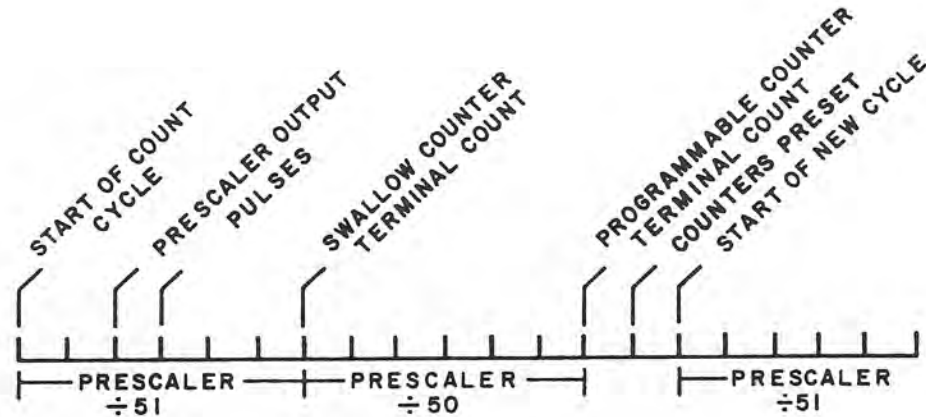

Figure 3-21. 1st Lo Synthesizer Counting Cycle
b. 1st Lo Counting Cycle. Figure 3-21 shows graphically a typical 1st lo counting cycle. The prescaler divides by 51 until the swallow counter reaches terminal count. When the outputs of the swallow counter reach this state, they cause the zero detector's E output state to become high. This causes the prescaler to divide by 50 until the end of the count cycle. Since the programmable counter is separately clocked, it continues to count down until its terminal count is detected by the early decode circuit. When this occurs, the $\overline{F}_0$ output of the early decode goes high after the next clock pulse from the prescaler. This is the output pulse supplied to the phase detector. When the output from the early decode circuit again goes low, it resets the counters to the preset number on their inputs. It also causes the reset enable circuit to reset the zero detector circuit causing its output to go low so the prescaler can divide by 51 during the next count cycle.